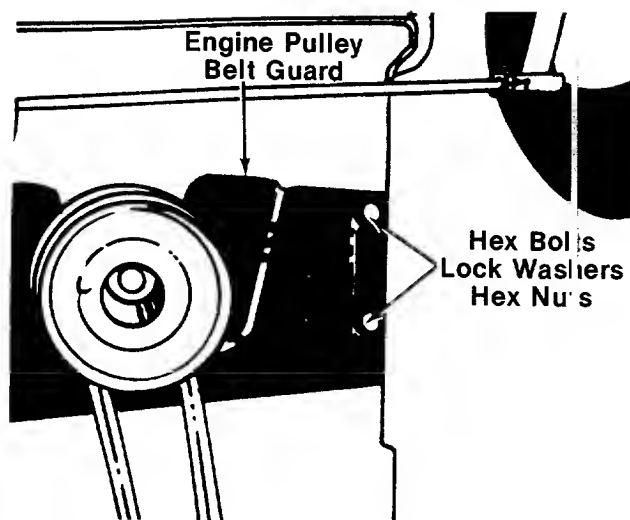

FIGURE 26.
5. Remove the two bolts, lock washers and nuts on each side of the frame which hold the engine pulley belt guard to the frame. See figure 26.